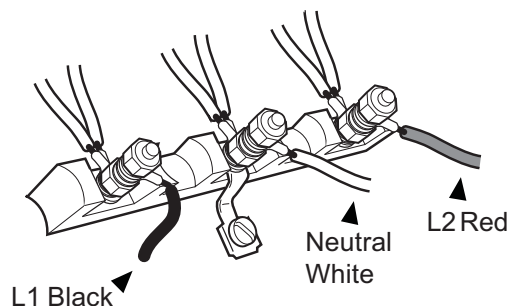

Figure 13: 3 Wire Connection
- Wiring for the unit is to be brought into the junction box through the conduit. The ends of the wiring must have 1/4" faston closed-loop lugs attached, preferably soldered in place. Make the connections to the terminal block provided. Secure the ground lead to the junction box with the screw previously used to secure the ground strap. Refer to Figure 13. The free end of the
2. Secure the neutral, grounded wire of the supply circuit, to the center stud of the terminal block with nut. (See Figure 13).